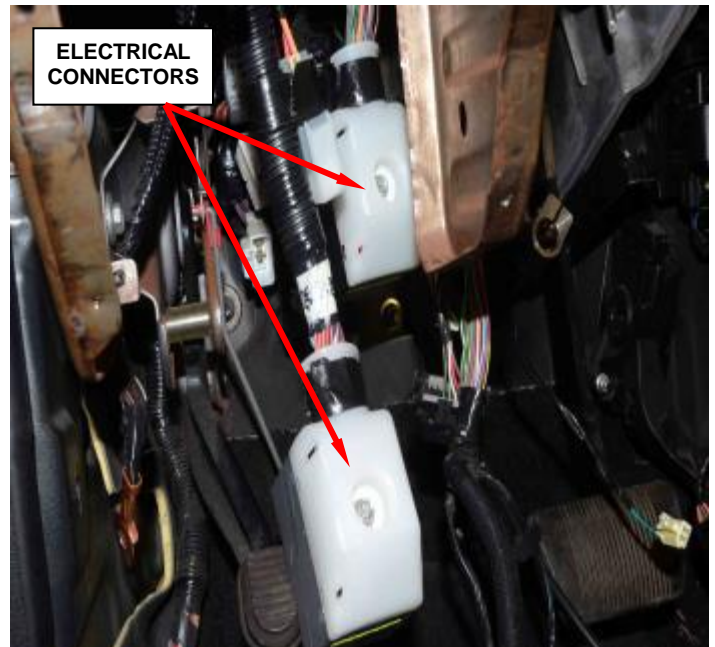

Figure 78 – Electrical Connectors
19. Loosen the screws and disconnect the electrical connectors (Figure 78).